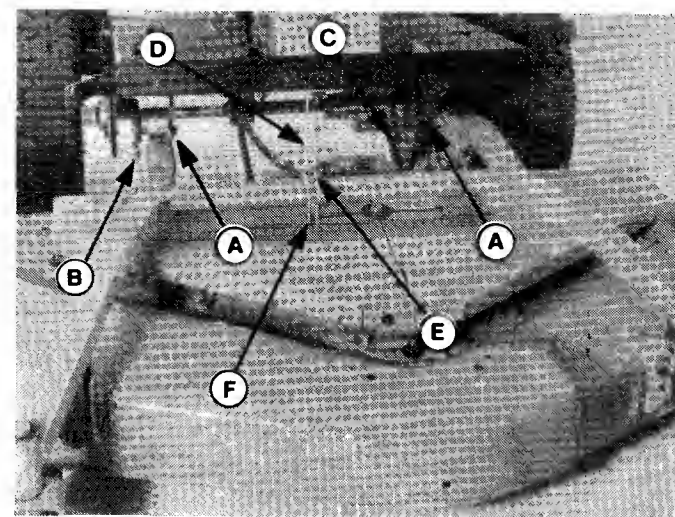

Figure 13.
2. Remove the two pins (A, figure 13) and clips (B). Slip a 2" x 4" board under rear edge of mower to make pin removal easier.
3. Connect mower to rider with two pins (A, figure 13) and clips (B). Slip a 2" x 4" board under rear edge of deck to make pin installation easier.
5. Place the lift chain (F, figure 13) and lift cable clevis into the bracket (E). Insert pin through bracket, clevis and chain. Then, secure with the clip.